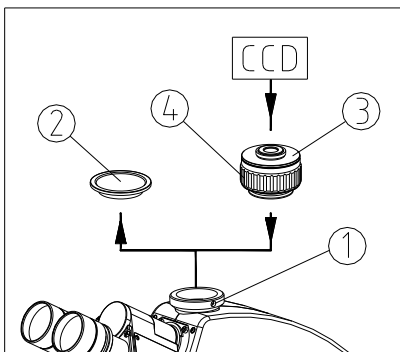

Fig. 14
1. Loosen the lock screw (1) of trinocular head and remove the dustcover (2) (See Fig. 14).
2. Remove the dustcovers from the camera adapter assembly (3). Thread the top of the camera adapter into the C-mount of the camera. Place the assembly into the trinocular head (flange side towards microscope; camera end points up) as shown in the figure and screw down the lock screw (1).
3. For binocular observation, focus through the eyepieces until the image is sharp. Observe the image from the camera. If the image is out of focus, rotate the focus ring on the camera adapter (3) to adjust the focus in the camera image until it is sharp.
4. If the image from the camera is rotated compared to the eyepieces, loosen the lock screw (4) and rotate the camera until the images have the same alignment. Retighten the lock screw.